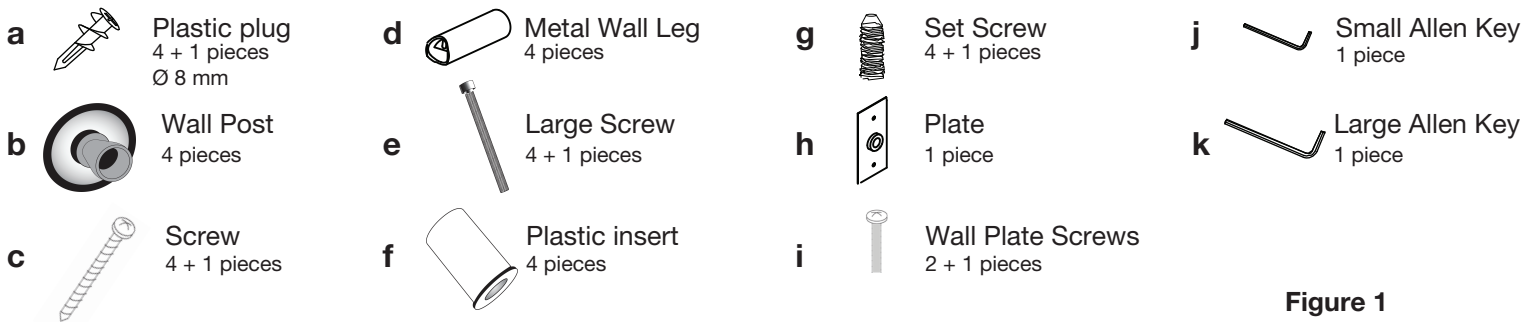

Figure 1
Step 1: Verifying installation parts (figure 1)
Ensure all parts for mounting installation were supplied with your towel warmer (see Figure 1). If any are missing, please contact us.